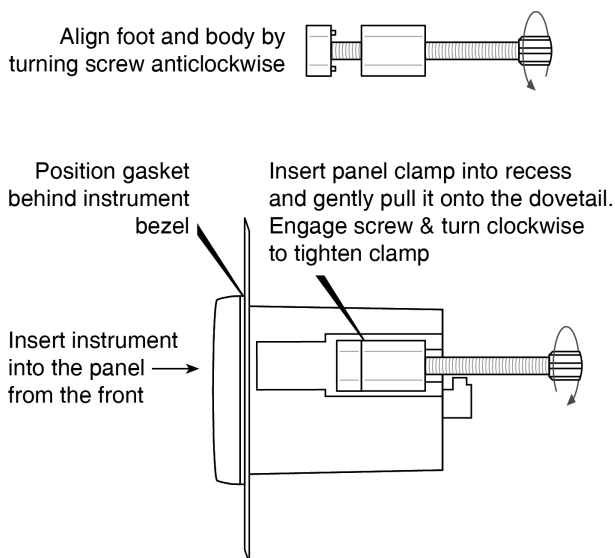

Fig 4 Fitting panel mounting clamps
- Place a clamp in the recess on each side of the Counter, pulling gently to slide it onto the dovetail as shown in Fig 4. Push the knurled screw slightly forward to engage the thread and tighten by turning clockwise until it is just finger tight. When both clamps are fitted ensure that the gasket behind the front panel bezel is correctly positioned before fully tightening the clamps to secure the instrument. The maximum recommended clamp tightening torque is 22cNm (1.95 lbf in) which is approximately equivalent to finger-tight plus one half turn. **Do not over tighten.**